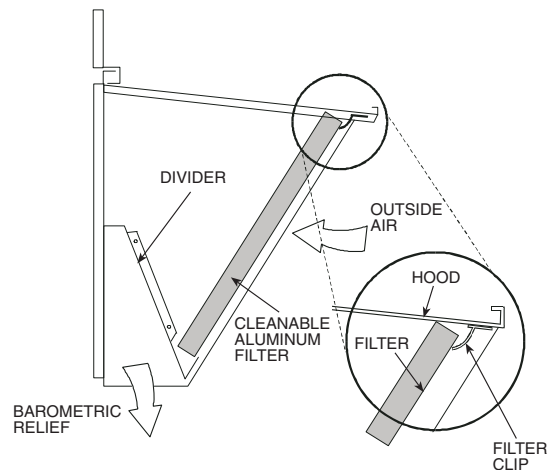

Fig. 19 — Economizer Filter Installation (Size 08-14 Shown)
5. Open the filter clips which are located underneath the hood top. Insert the aluminum filter into the bottom filter rack (hood divider). Push the filter into position past the open filter clips. Close the filter clips to lock the filter into place. See Fig. 19.